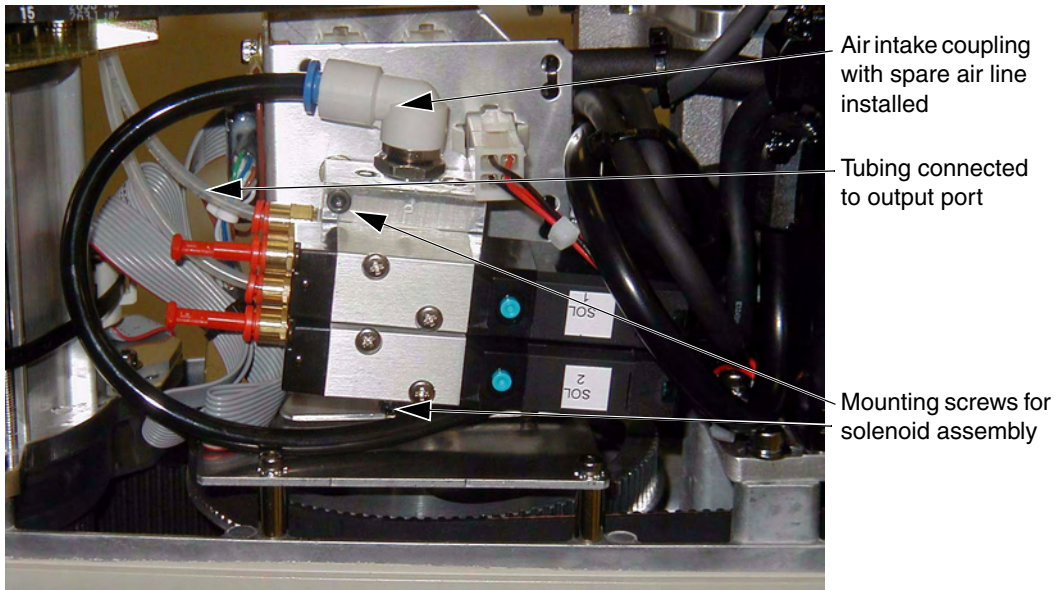

Figure 7-5. Solenoid Placement Using Mounting Hardware
5. Mount the solenoid manifold onto the bracket using the supplied M3 x 25 mm screws and washers (see Figure 7-5 on page 143).